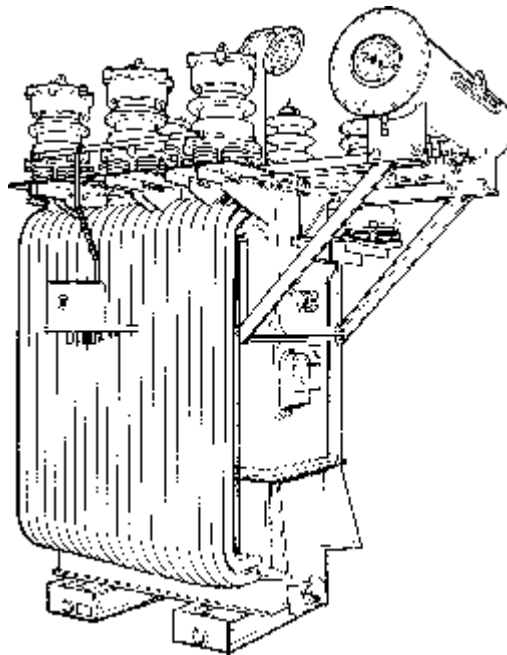

Figure 1
1. What methods of cooling are used on the transformer shown in figure 1?
2. Is the transformer shown in figure 1, a single or three phase transformer?